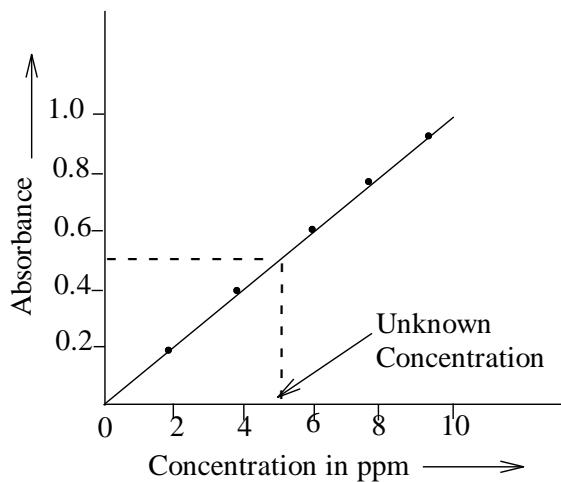

Figure 2.5 Absorbance versus Concentration
- With the help of calibration curve, the calcium and magnesium content of test solution is measured (Figure 2.5).